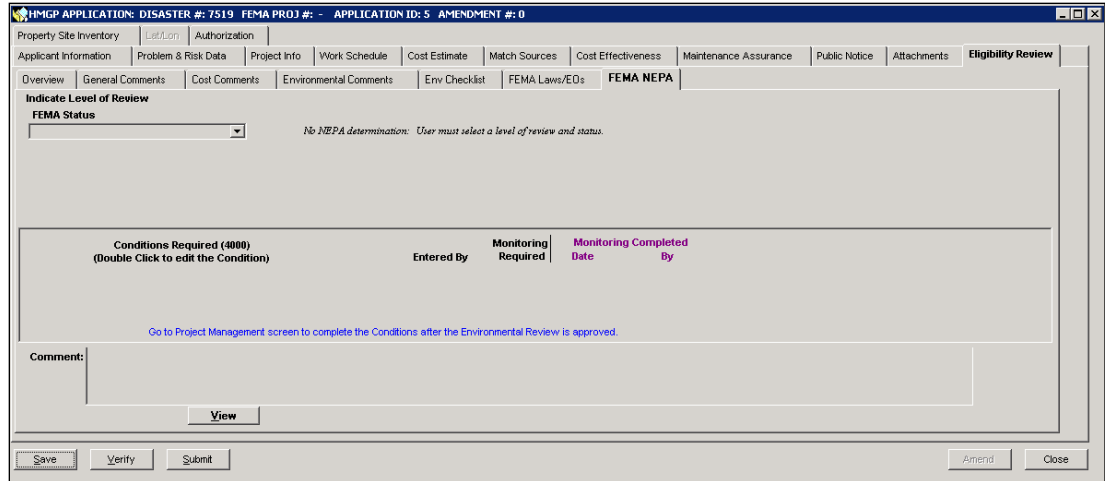

Figure 6-83: Mitigation >Projects >Application Development >Eligibility Review >FEMA NEPA Sub-tab
13. Click the **FEMA NEPA** sub-tab. NEPA review information is displayed (Figure 6-83).